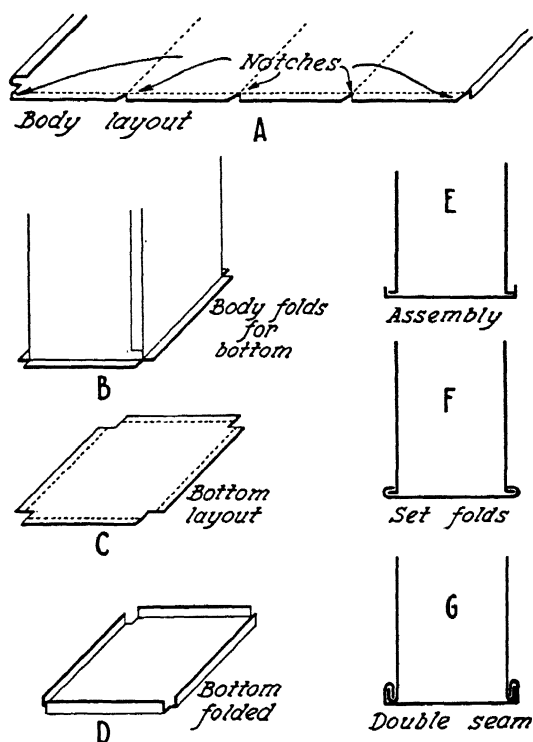

Fig. 64. Steps for double seaming a bottom
Additional metal must be added at one end of the body for the inner fold of the bottom seam. Add just the width of the seam for this purpose (see A, Fig. 64). Notching at every brake is necessary so the body can be formed.
Form and double seam the body as described in Method A (see B, Fig. 64).
The bottom must be large enough to hook over the flanged portion of the body as shown in C, Figure 64. Measure the length and width of the container to the outer edges of the flanged portion. To this add the width of the seam all the way around. Notch the corners twice the width of the seam as shown, and fold the edges to a right angle (see C and D, Fig. 64).
**5. Set Down the Folds (see E and F, Fig. 64)**